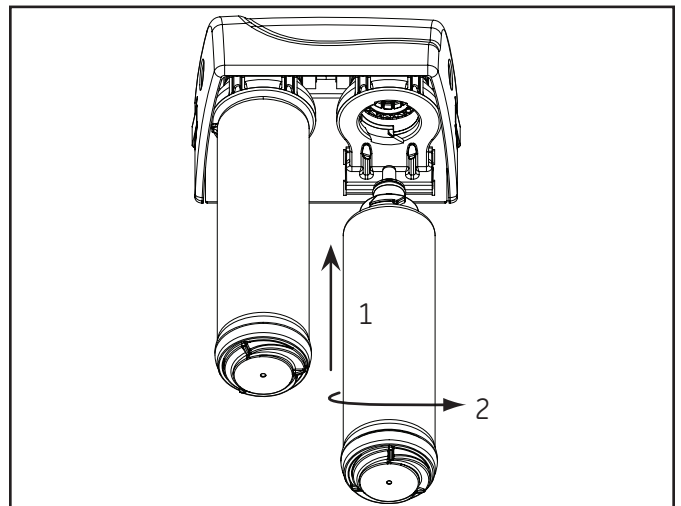

Figure 10
- C) Place hand on filter head assembly to steady the system. Align the blades on the replacement filter cartridge with the slots in the filter head assembly. Slide the cartridge filter up into the filter head assembly until it can go no further. Rotate the cartridge clockwise 1/4-turn until the cartridge snaps in place (Figure 10). Repeat for second cartridge. See Placing the System into Operation section for remaining steps.